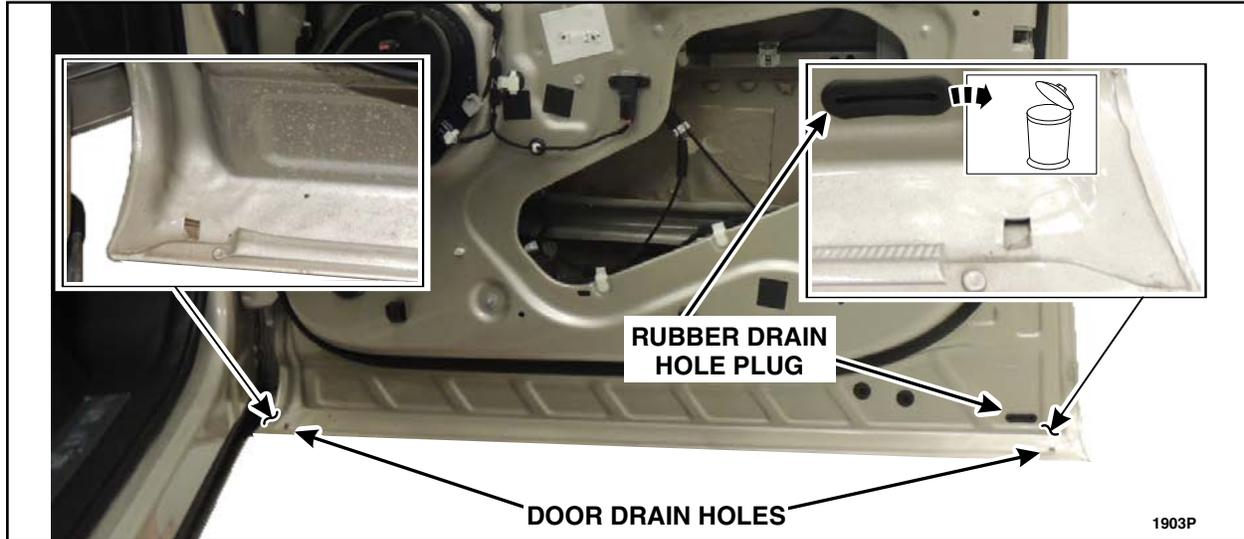

FIGURE 17
- If water shield kit installation was not necessary, remove and discard the rubber drain plug and clean any obstructions, debris, foreign material and residual water from all of the door drain holes using compressed air and a tool such as a plastic trim tool or a zip tie. See Figure 17.